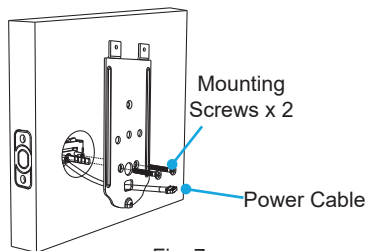

Fig. 7
Step 2. If needed, have someone hold the door itself or hold the outside section flat against the front of the door. And align the plate on the back of the door while making sure to gently thread the cable under the latch. Gently thread the power cable through the square hole of the plate. Then use the 2x mounting screws to fasten the plate to the back of the door. Make sure all screws are tightened. (Fig. 7)